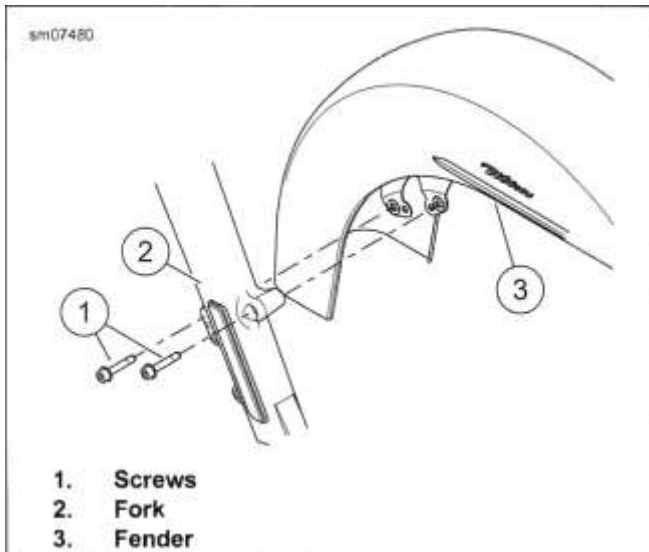

Figure 3-155. Front Fender Fasteners
4. See Figure 3-155. Remove screws (1). Remove fender.